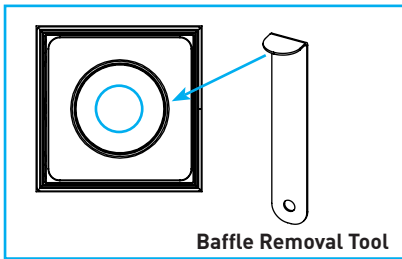

Fig.45
- Using baffle removal tool, carefully place edge of tool on inner most aperture rim and gently pull down until baffle is released from housing. **(Fig.45)**
- Remove baffle by inserting baffle removal tool referenced in Section G-1 and carefully prying down (Fig.45). Remove optic from LED module by twisting counter clockwise.